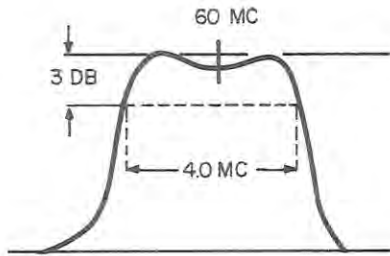

Figure 5-9. 60-21.4 Mc Converter Response Waveform at J2 Output.
- n. Adjust L1, L2, L3 and L4 for maximum response centered around the marker. Refer to Figure 5-9.